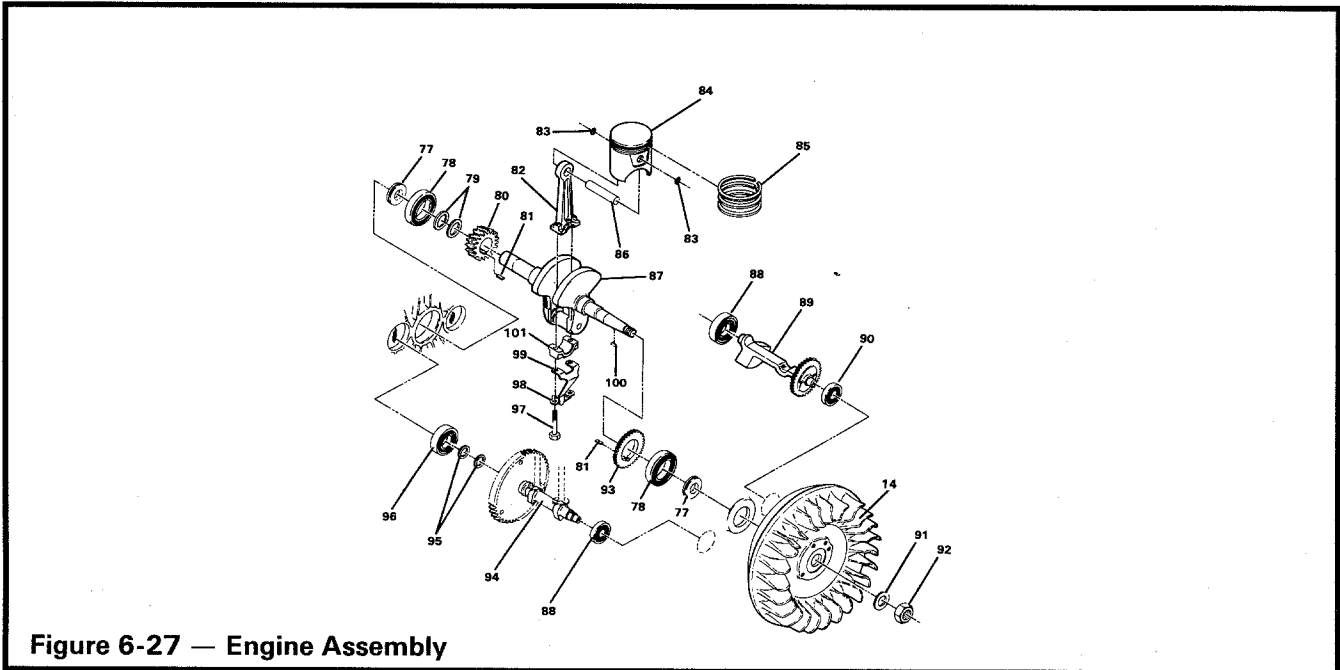

Figure 6-27 — Engine Assembly
1. Remove flywheel nut (92) and lock washer (91) (Figure 6-27).
3. Insert woodruff key (100) (Figure 6-27) into crankshaft keyway, align flywheel keyway to key, firmly push flywheel fully onto crankshaft.
4. Install lockwasher domed side out (91) and flywheel nut (92). Tighten to 60-65 ft.-lbs. torque.